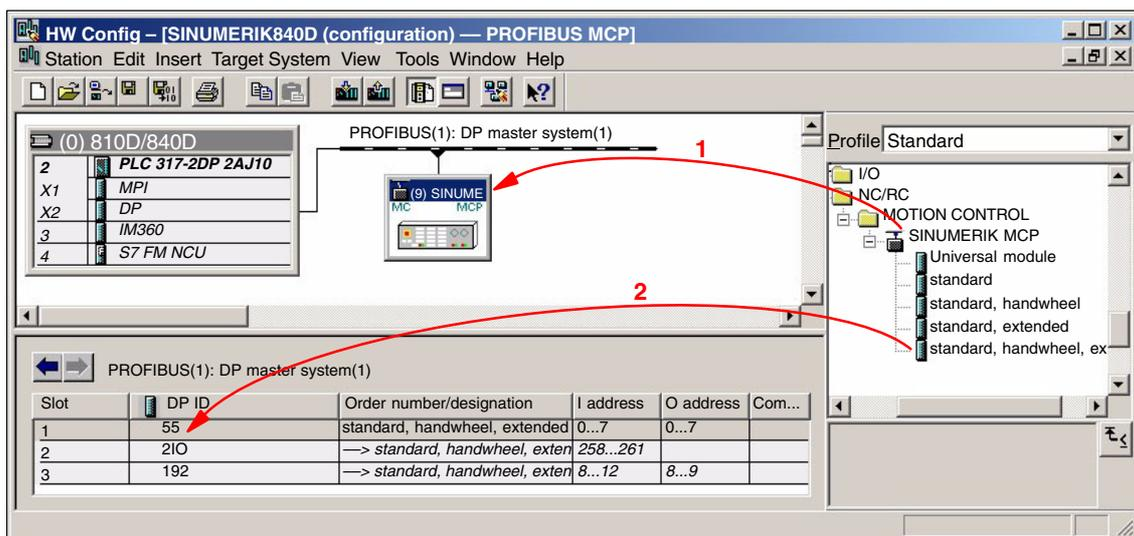

Fig. 8-14 Configuration with DP slave: MCP 310
This chapter describes the configuration of a DP slave: MCP 310 by way of example of the hardware configuration of a SIMATIC S7 project shown in Fig. 8-14.
1. Insert DP slave: MCP 310 in the configuration (see Fig. 8-14, Page 8-218: 1)
3. Insert the modules in DP slave: MCP 310 for the functions required. (see Fig. 8-14, Page 8-218: 2)